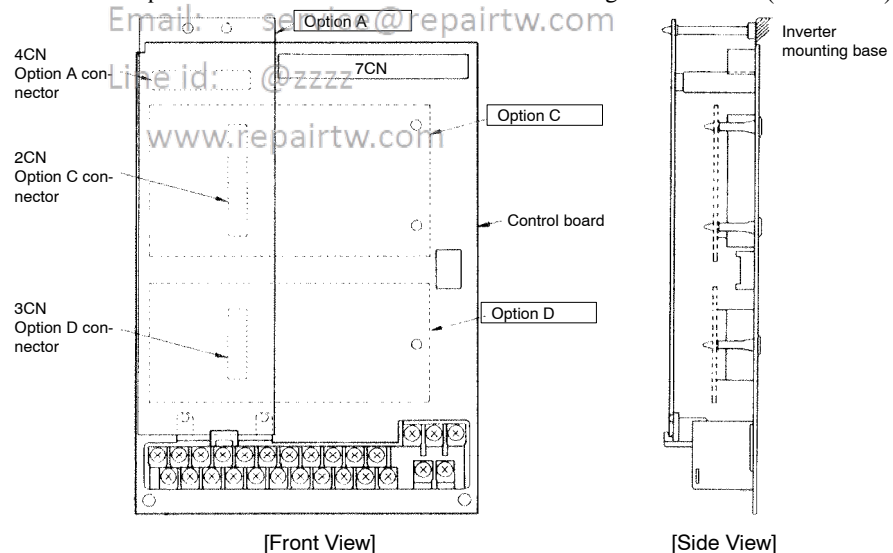

Fig 7.32 Installation Locations for Option Cards
3. Check the Option Card's installation location (A, C, or D). (See *Figure 7.32*.)